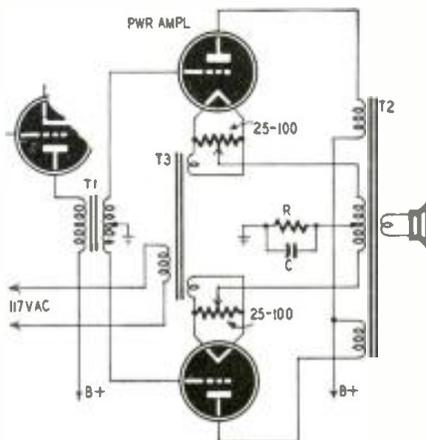

Fig. 1—Filament tube feedback circuit.
A. Figs. 1 and 2 show how feedback can be applied around a transformer-coupled power amplifier. T1 may be an input, driver, or interstage transformer; T2 is a push-pull output trans-
Fig. 1 is used with directly heated (filament-type) tubes. T1 may be replaced by conventional resistance-capacitance coupling if the power amplifier is operating class A and the speech-amplifier tubes deliver sufficient voltage. Low-resistance potentiometers are connected across each filament winding and to the outside leads of the feedback winding. These are adjusted for minimum hum. The cathode biasing resistor R and its bypass capacitor C are connected between ground and the center tap on the tertiary.